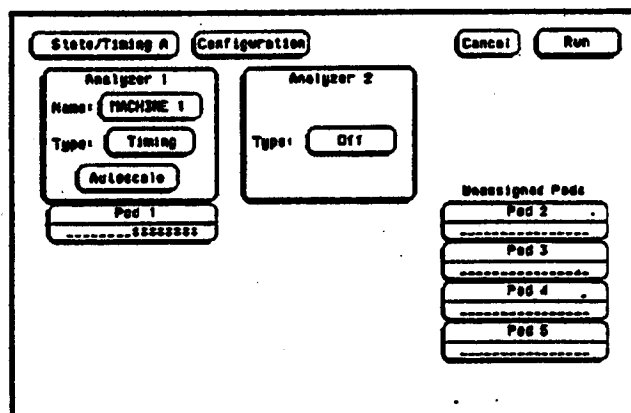

Figure 3-35. Configuration Screen
3. Assign the pod under test to Analyzer 1 in the Configuration Screen as shown in figure 3-35. Refer to steps a and b if unfamiliar with menus.
2. Assign the pod under test to Analyzer 1 in the Configuration screen as shown in figure 3-35.